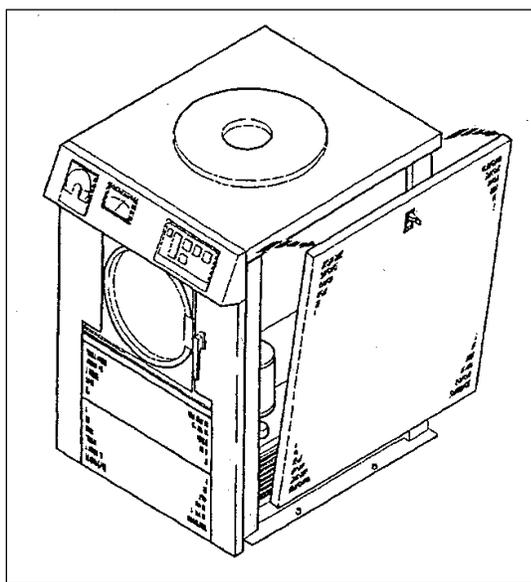

Figure 7 - Remove the side inspection panel
When locating the SuperModulyo freeze dryer, consider ease of access for maintenance and repair work, where removing the cover of the SuperModulyo freeze dryer is necessary (see Figures 7 and 8).
4. Pull the top of the panel out and lift the panel upwards to remove it (see Figure 7).